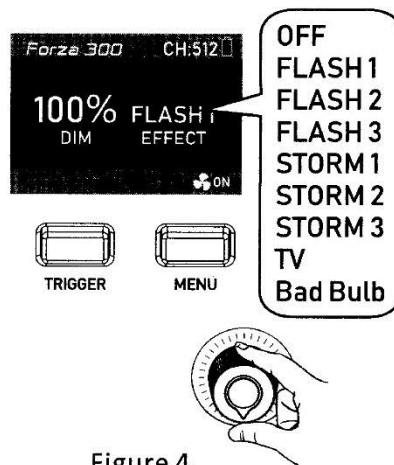

Figure 4
- ④Forza 300 provides 9 different light modes, turn on the fixture to enter the main interface and rotate the "Function Knob" clockwise, the order on the display is"FLASH 1(0.25 seconds)/FLASH 2(1 seconds)/FLASH 3(0.1-6 seconds)/STORM 1(flash for 7 times continuously) /STORM 2(flash for 7 times continuously)/STROM 3(10-15 seconds in random variations)/TV/Bad Bulb. (As shown in figure 4)